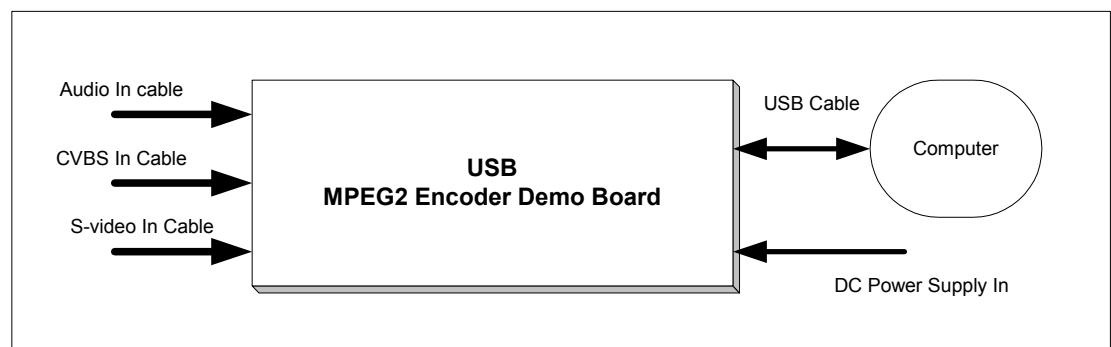

Figure 3-1: Connection Block Diagram
To perform a functionality test, an Audio/Video (AV) source device is required. Its audio and video output signals should be connected to the audio and video input jacks of the demo board, respectively. See Figure 3-1.